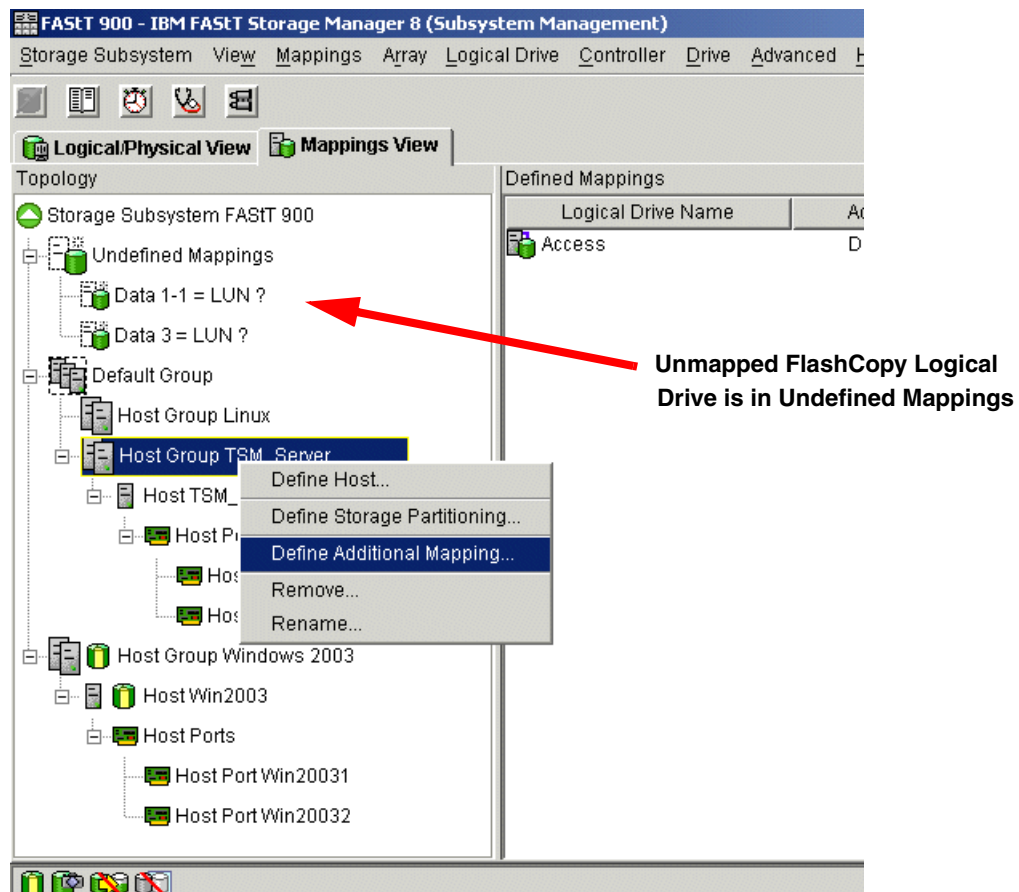
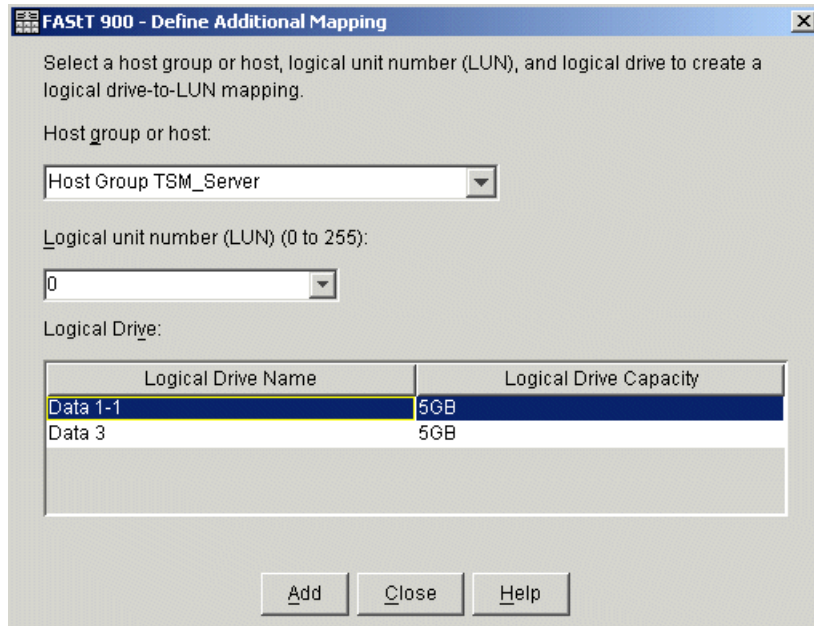

Figure 7-28 Define Additional Mapping from Subsystem Management
Figure 7-29 Define Additional Mapping
3. Right-click and select **Define Additional Mapping**, as shown in Figure 7-28.
4. The Define Additional Mapping window (Figure 7-29) opens. Follow these steps:
In the examples shown in Figure 7-28 on page 218 and Figure 7-29, the FlashCopy logical disk “Data 1-1” is made available to the TSM_Server host group. This enables the TSM_Server to access and mount the disk as part of its own file system.